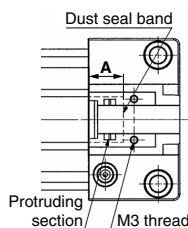

Fig. 2
- Install the dust seal band (Table 1), which has been coated with grease on both sides, so that its end surface is in the middle between the M3 thread on the top surface of the head cover and the protruding section. (Recommended position: the A dimension) (Refer to Fig. 2.)